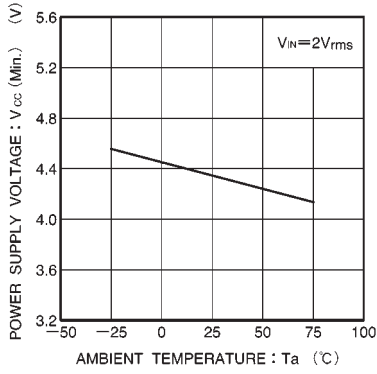

Fig. 6 16th point lighting limit power supply voltage vs. ambient temperature
- 2) The temperature characteristic for the lighting limit for the 16th LED is shown in Fig. 6.